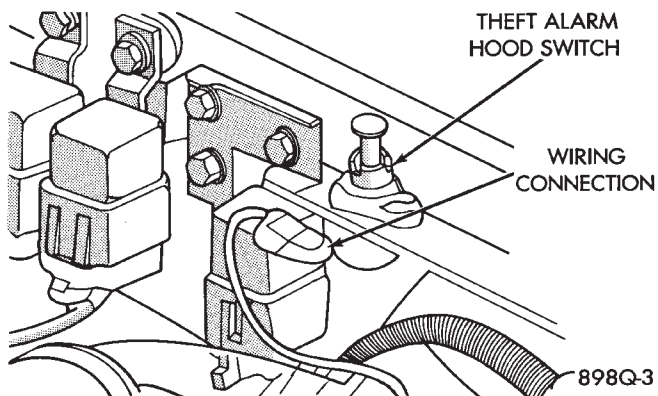

Fig. 5 Hood Switch
- (1) Remove screw from left inner fender (Fig. 5).
- (2) Disconnect wiring.
- (3) Remove switch.
- (4) For installation reverse above procedures.